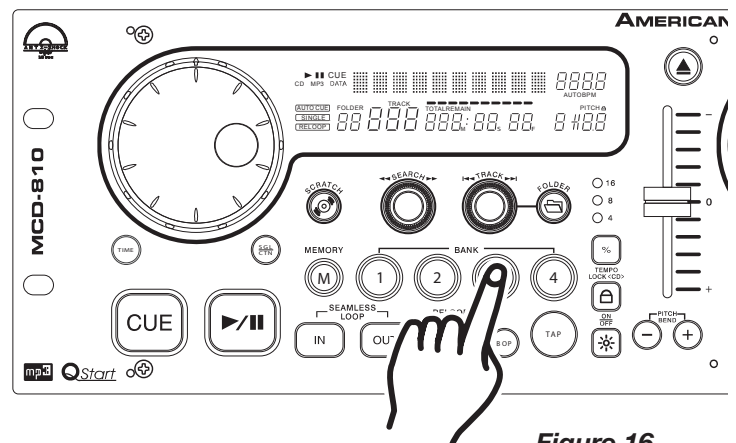

Figure 16
- Create a Cue Point by one of the two means listed on page 16. Press the *MEMORY BUTTON* (12), as in Figure 16. The blue Memory L.E.D. will glow indicating the store memory function has been activated. You may now press any one of the three *BANK BUTTONS* (7) to store your cue point into memory (Figure 16). After pressing one of the *BANK BUTTONS* (7), the corresponding Bank Button L.E.D. will flash. The blue L.E.D. on the the *BANK BUTTON* (7) will turn red and will remain lit indicating either a loop or cue point is stored in memory. The blue Memory L.E.D. will turn off.